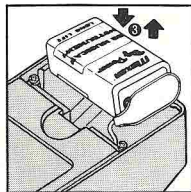

Fig. 2
- ① Push the tab marked "OPEN" and lift up.
- ② Replace the battery as shown in figure 2.
- ③ Put the battery cover into the groove and push to the end.